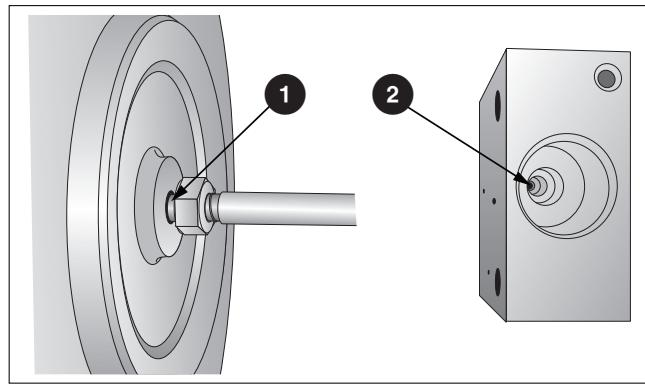

Figure 6. Stem Vee Placement
7. Loosen the stem vee-retaining nut and remove the stem vee. (Figure 6, ①).